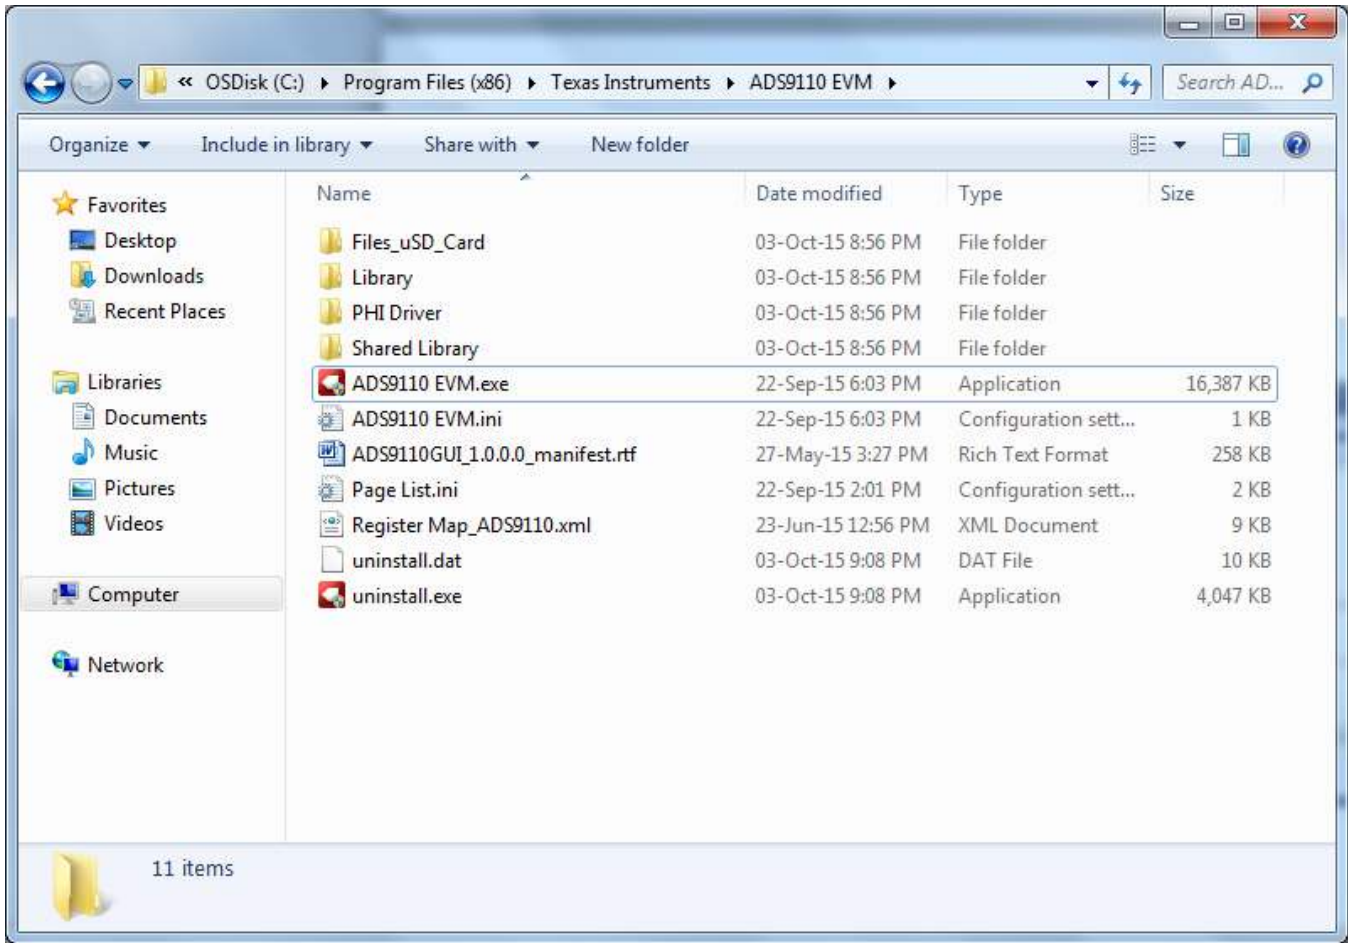

Figure 9. Launch the EVM GUI Software
3. Launch the ADS9110EVM GUI software, as shown in Figure 9.